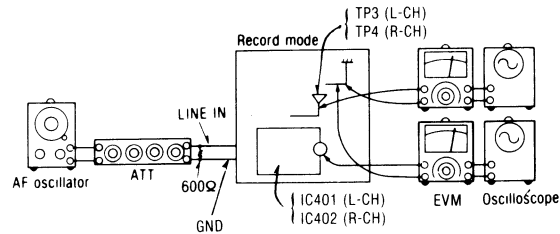

Fig. 19
- Make connections as shown in fig. 19.